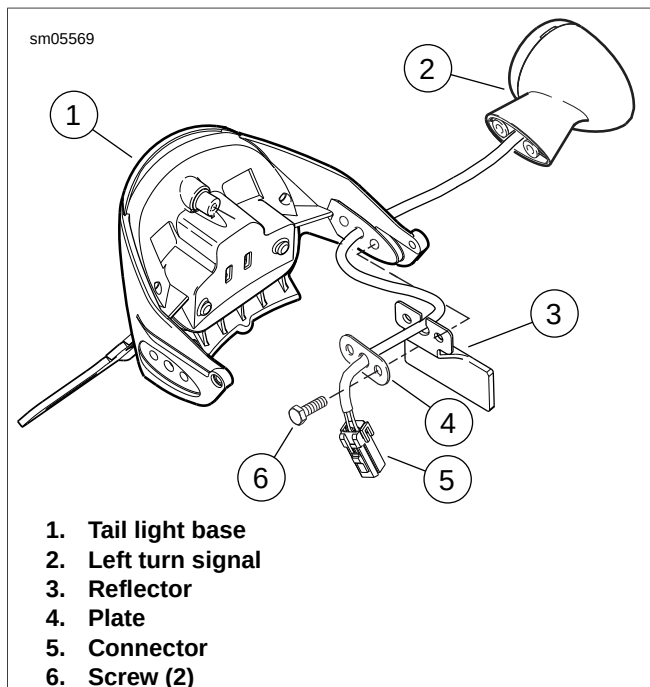

Figure 6-79. Turn Signal Housing Removal: XR 1200
2. See Figure 6-79. Remove screws ((6), plate (4), reflector (3) and turn signal housing (2).
1. See Figure 6-79. Install turn signal housing (2), reflector (3), and plate (4) with screws (6). Tighten screws to 30-40 in-lbs (3.4-4.5 Nm).